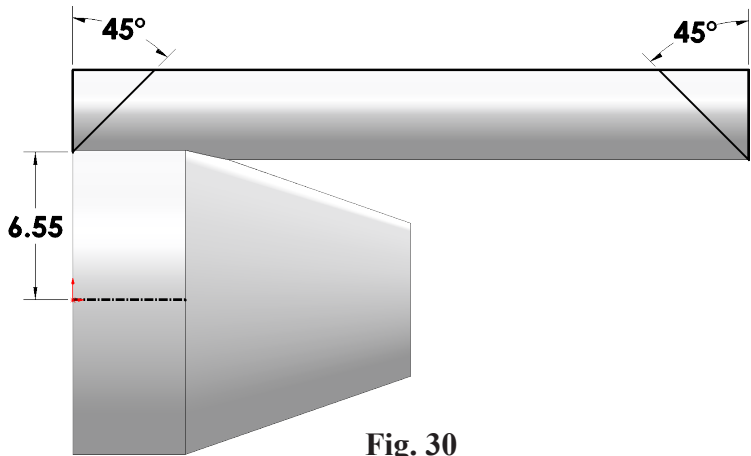

Fig. 30
Step 10. Click **Smart Dimension**  (S) on the Sketch toolbar.
Step 11. Add dimensions, Fig. 30.